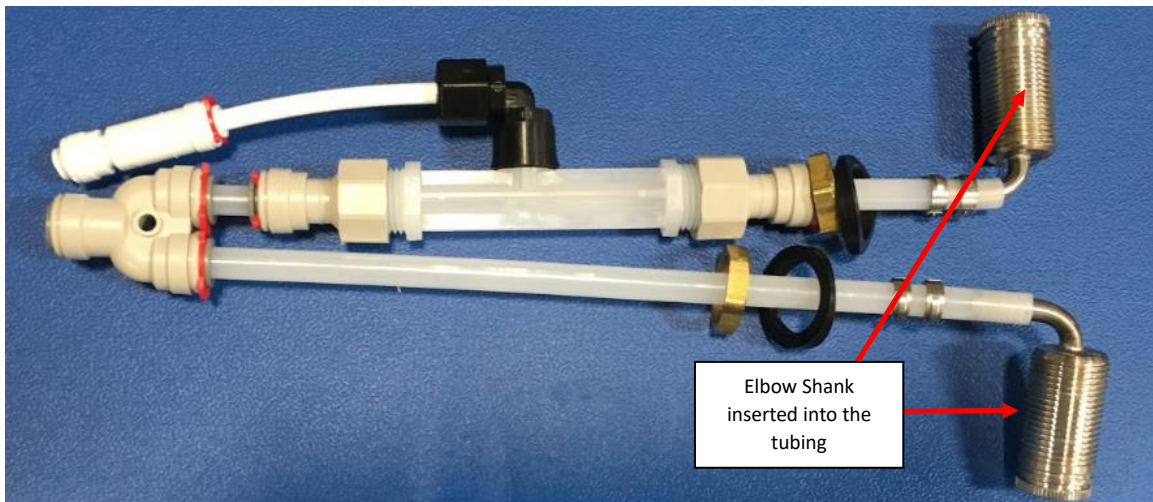

Figure H16: Elbow Shank inserted into the tubing.
4.1.5. Insert the disassembled Elbow Shank into each one of the tubes on the Nitro Tower Tubing Assembly. See Figure H16.